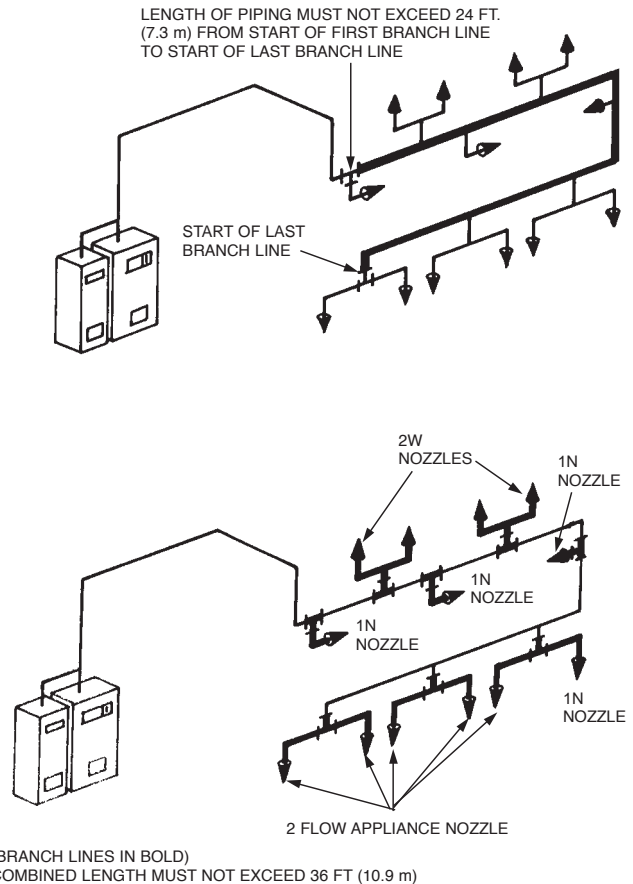

FIGURE 4-135
3. The length of supply line piping between the start of the first branch line and the start of the last branch line must not exceed 24 ft (7.3 m). See Figure 4-135. When the supply line is split, the **combined total** of both legs of the supply line (from the start of the first branch line to the start of the last branch line) must not exceed 24 ft (7.3 m).
4. The combined length of all branch lines must not exceed 36 ft (10.9 m). See Figure 4-135.